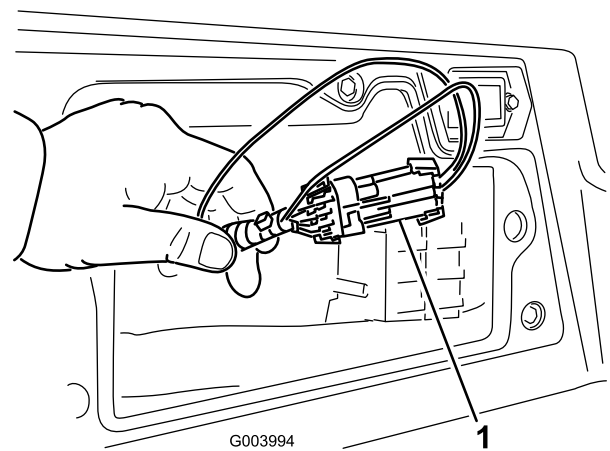

Figure 47
3. Locate the wire harness and connectors near the controller (Figure 47).